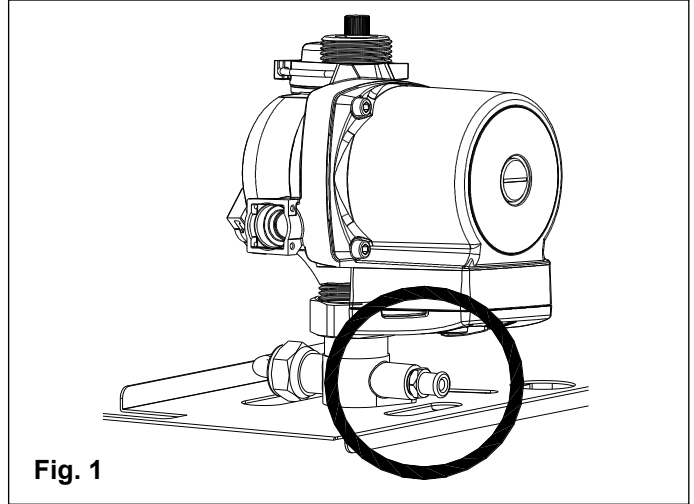

Fig. 1
- Grasp the lower part of the panel and pull it outwards (see fig. 1) and then up (see fig. 2).
- Remove the front panel (see fig. 1 and fig. 2).
- Open the system drain valve (fig. 1).
- **If only the boiler needs to be drained, close the flow/return isolating valves on the heating circuit and open the drain valve R located at the bottom of the boiler on the pump manifold (see fig. 1 );**
Cleaning the main exchanger module and combustion unit (fig. 1)